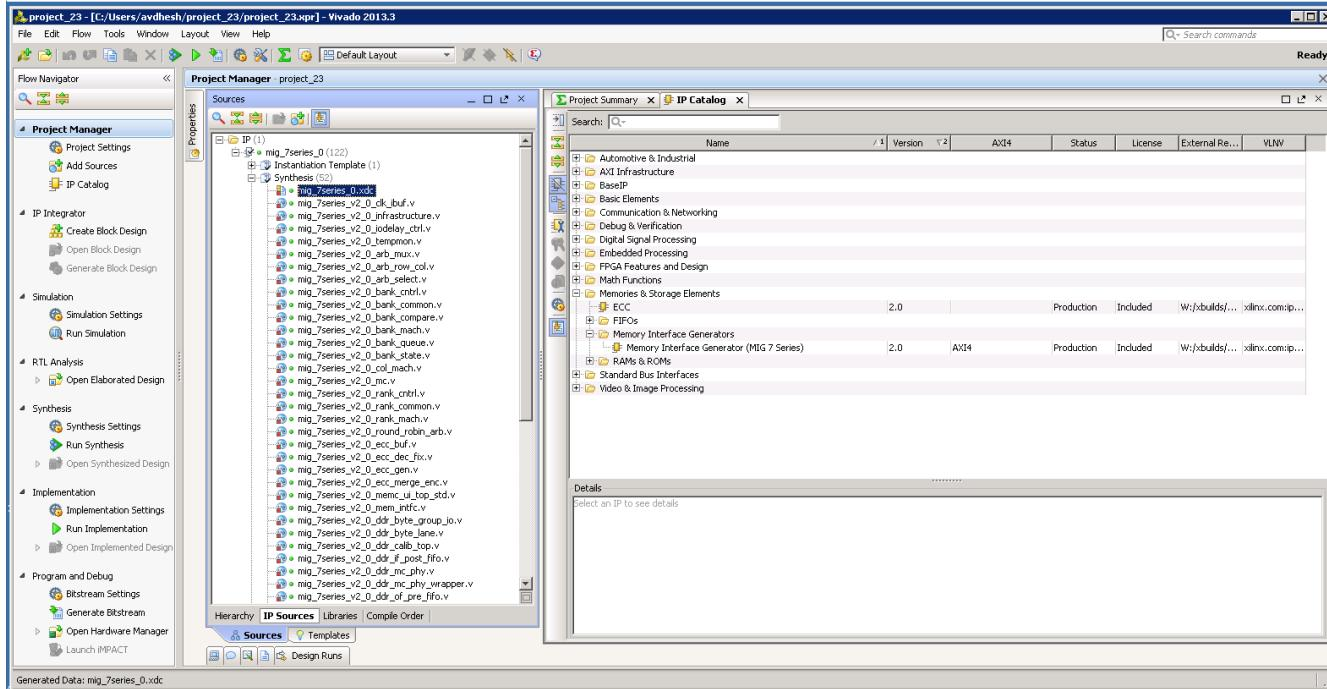

Figure 3-29: Generate RTL and Constraints
6. All MIG generated user design RTL and XDC files are automatically added to the project. If files are modified and you wish to regenerate them, right-click the XCI file and select **Generate Output Products** (Figure 3-29).